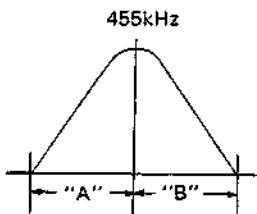

Fig. 25
- Adjust the wave center to 455kHz and also for symmetrize "A" and "B" with T805,806,808.(Fig. 25)